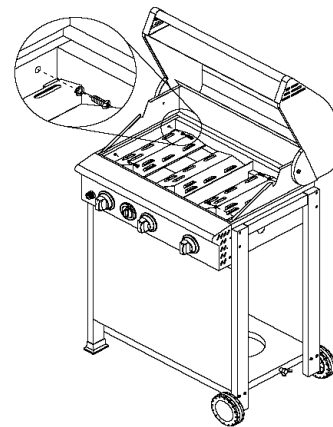

Figure 8
2. Attach grill head to the cart by using (4) 1/4 x 1/2" Phillips head screws with (4) 1/4" lock washers (Fig.8)